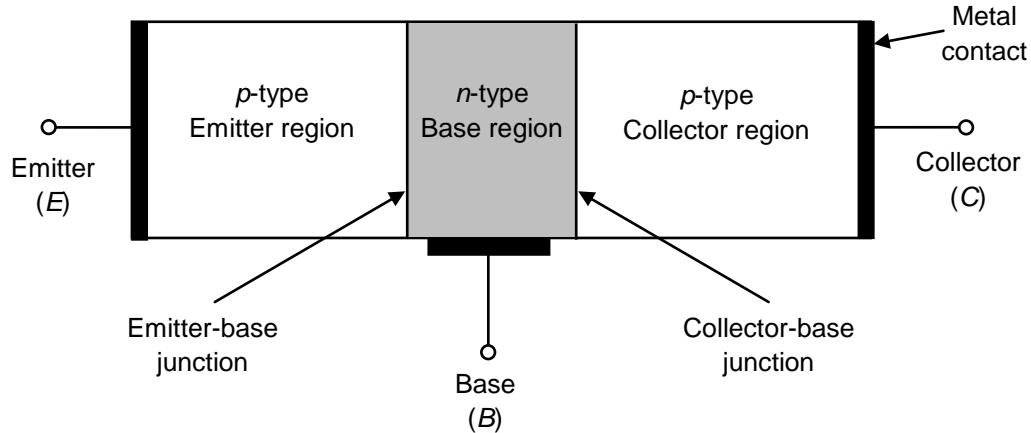

Fig. 3.17: Structure of a *p-n-p* transistor.
1. a) Fig. 3.17 shows the labelled diagram of the structure of the *p-n-p* transistor.